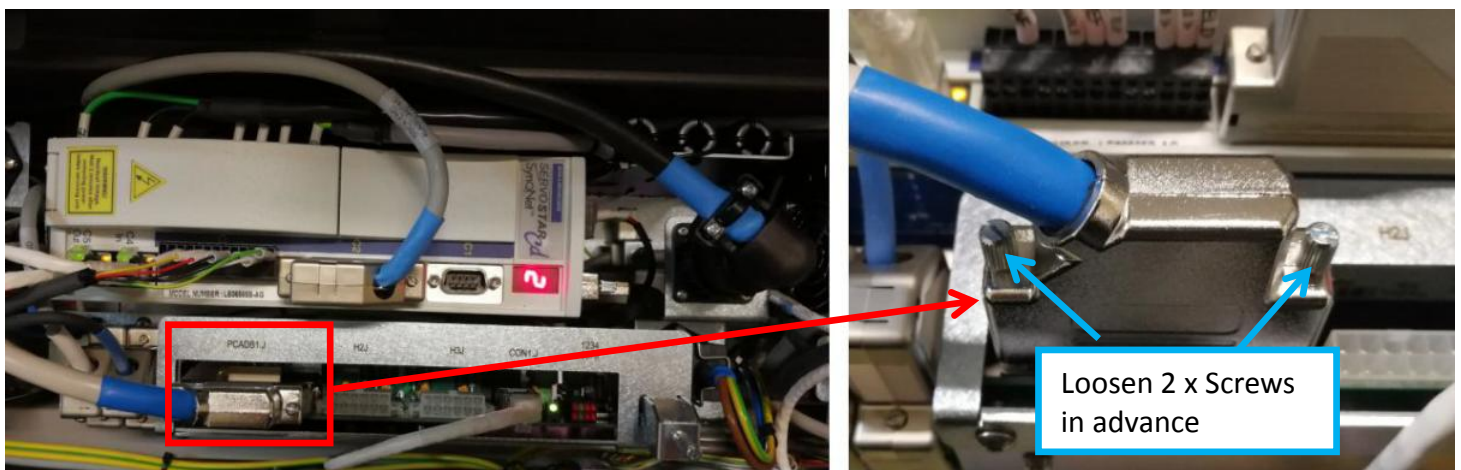

Figure 8
11. Disconnect Stepper Motor Driver connector from PCAADB1J as Figure 8